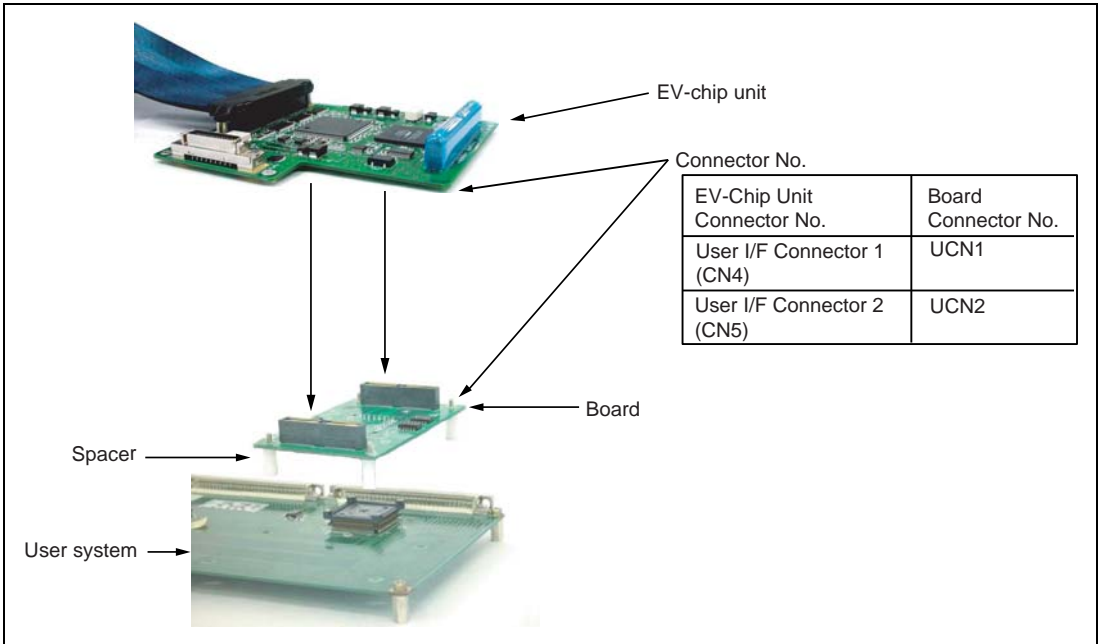

Figure 3 Connecting User System Interface Board to EV-Chip Board
2. Align the connectors on the board with those on the EV-chip board according to their numbers (figure 3).